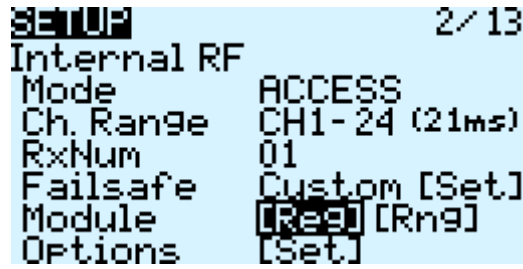

Figure 31: Internal RF
5. Using the ENT knob, scroll down to INTERNAL RF. See figure 31.